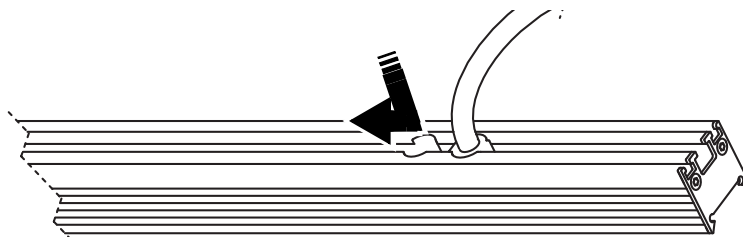

Figure 2: Inserting a bolt head or nut into a channel in a fixture
A channel for M6 fasteners (bolt heads and nuts) is provided in the profile on the back of VDO Sceptron fixtures. See Figure 2. To fasten brackets etc. to a fixture, pass each fastener through the cutout next to the cable tail and slide it into the channel. The channel holds the fastener captive so that you can tighten against it.
2. See Figure 2. Slide the bracket's nut into the channel in the back of the fixture. On 1000 mm fixtures, slide the nut until it is as close as possible to the center of the fixture.
3. Pass the bolt heads **I** through the cutout and into the channel in the rear of the fixture (see Figure 2 on page 11) and when the bracket is in position, tighten the nuts **G** to a torque of 8 Nm.
2. Pass the coupler bolt head through the cutouts and into the channels in the rear of the two fixtures to be joined (see Figure 2 on page 11).